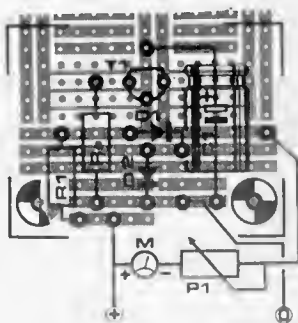

Figure 4:
The circuit serves to encode the decimal numbers 0 to 3 into their binary equivalents. As we have seen, the first digit (A) must be 1 for decimal 2 and 3, and the second digit (B) must be 1 when decimal 1 and 3 are to be represented. For decimal 0, both A and B must be 0. This circuit can be connected on the Digilex board using NAND gates as shown in figure 4.
For testing the circuit, a 1K linear potentiometer can be connected as load, in series with a multimeter (with 10 mA DC range). The current reading on the multimeter can be observed to be fairly constant and independent of the potentiometer setting. The circuit of figure 2 requires the load to be connected between the plus pole of the supply and collector of the transistor. In case the load requirement is such that it needs a connection at the minus pole, then the circuit must be connected as shown in figure 4. The principle of operation remains same, only change being that the transistor used here is PNP-type.